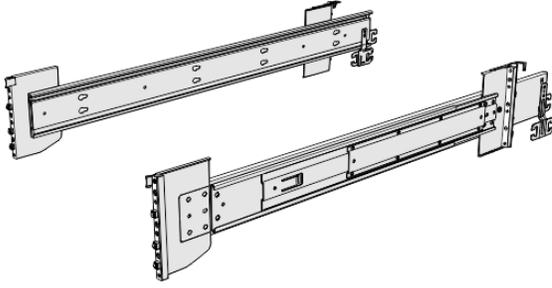

Figure 48. Support rails
1. Locate the hardware that is used to install the rails, including the M4xL6 and M5xL13 screws. Set the hardware, which is shown in Figure 48 on page 91, aside for use later in the installation process.